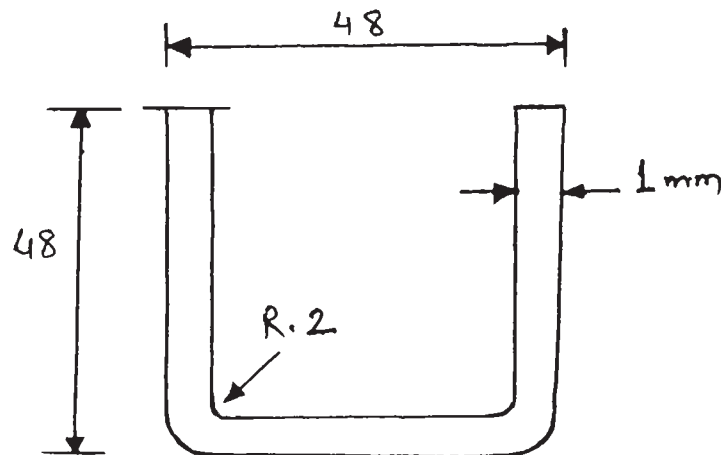

Fig. No. 3
- b) A shell shown in Figure No. 3 has a height of 48 mm and a diameter of 48 mm. The corner radius is 2 mm and workpiece material is medium carbon steel and is 1 mm thick. Calculate: